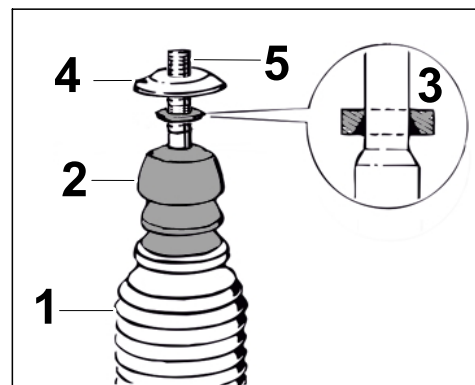

Figure 2
2.1.1 Attach protective bellows to additional spring and fit on piston rod (⇒ Figure 2).
2.1.2 Push cone washer and stop plate as far as they will go onto the piston rod at the correct position (⇒ Figure 2).